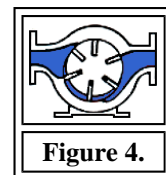

Figure 4.
**Vane.** The vanes - blades, buckets, rollers, or slippers - work with a cam to draw fluid into and force it out of the pump chamber. The vanes may be in either the rotor or stator. The vane-in rotor pumps may be made with constant or variable displacement pumping elements. Figure 4 shows a sliding vane pump.